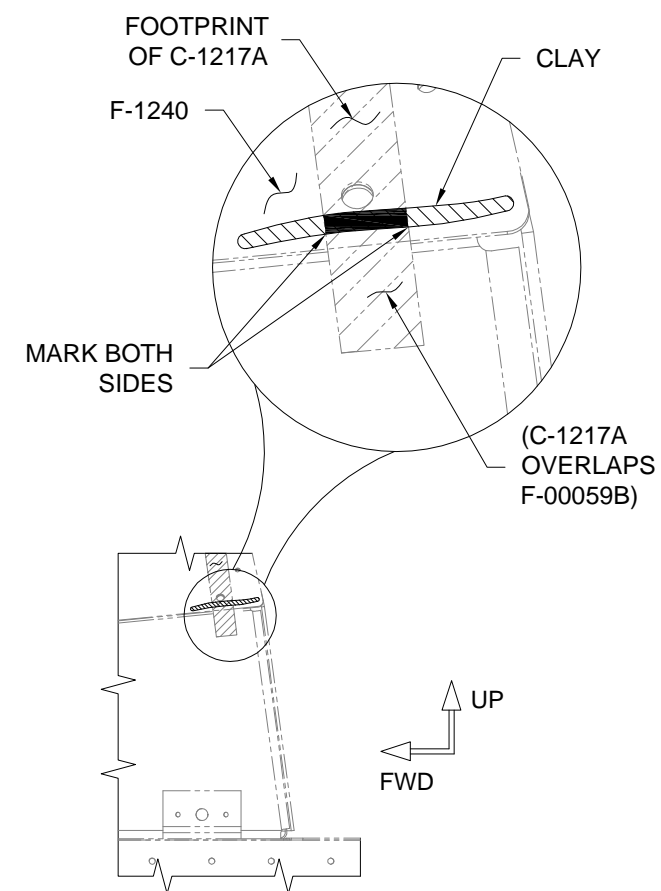

FIGURE 3: LEFT SIDE VIEW
NOTE: The C-1217A Fwd Seal is intended to overlap the yet to be installed F-00059B Vertical Seal. See Figure 3 call-out.
Step 8: Determine the location of the footprint of the C-1217A Fwd Seal on the F-1240 Upper Forward Fuselage Skin by placing about a 1/8 diameter, 1-2 in. roll of soft modeling clay parallel to the fore and aft edge of the skin and roughly beneath the seal as shown in Figure 3.